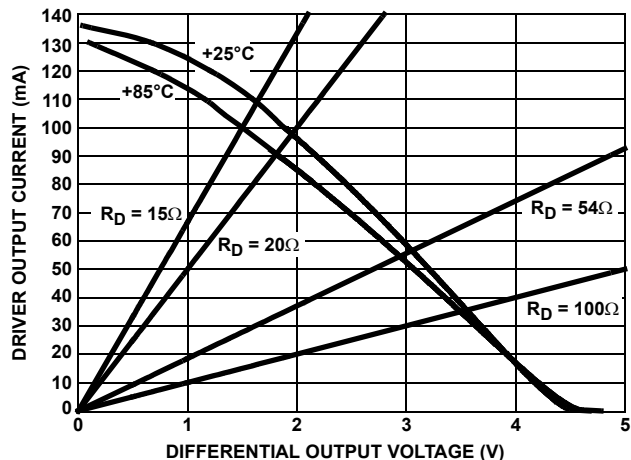

FIGURE 8. DRIVER OUTPUT CURRENT vs DIFFERENTIAL OUTPUT VOLTAGE
- See Figure 8 for more information, and for performance over-temperature.
Another advantage of the large V_{OD} is the ability to drive more than two bus terminations, which allows for utilizing the ISL3158AE in "star" and other multi-terminated, "non-standard" network topologies. Figure 8, details the transmitter's V_{OD} vs I_{OUT} characteristic, and includes load lines for six (20Ω) and eight (15Ω) 120Ω terminations. The figure shows that the driver typically delivers $1.65/1.5\text{V}$ into 6/8 terminations, even at the worst case temperature of $+85^\circ\text{C}$. The RS-485 standard requires a minimum 1.5V V_{OD} into two terminations, but the ISL3158AE delivers RS-485 voltage levels with 3x to 4x the number of terminations.